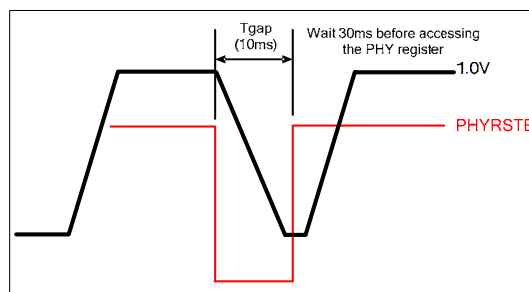

Figure 9. PHY Reset Timing
The RTL8211F(I)/RTL8211FD(I) has a PHYRSTB pin to reset the chip. For a complete PHY reset, this pin must be asserted low for at least 10ms (T_{gap} in Figure 9) for the internal regulator. Wait for a further 30ms (for internal circuits settling time) before accessing the PHY register. All registers will return to default values after a hardware reset. Refer to the RTL8211xx-xx_Power_Sequence_App_Note for more detailed information.